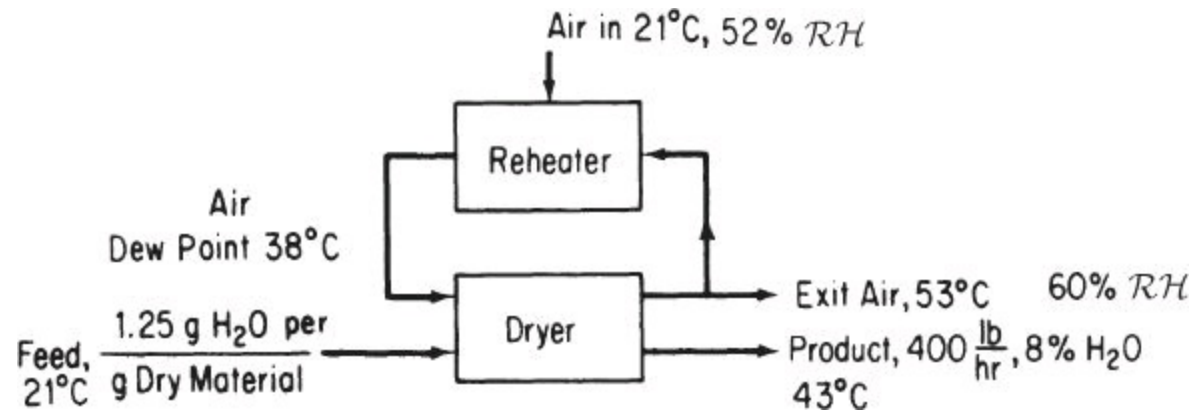

Figure P11.3.5
*****11.3.5.** A dryer produces 180 kg/hr of a product containing 8% water from a feed stream that contains 1.25 g of water per gram of dry material. The air enters the dryer at 100°C dry-bulb and a wet-bulb temperature of 38°C; the exit air leaves at 53°C dry-bulb and 60% relative humidity. Part of the exit air is mixed with the fresh air supplied at 21°C, 52% relative humidity, as shown in Figure P11.3.5. Calculate the air and heat supplied to the heater, neglecting any heat lost by radiation, used in heating the conveyor trays, and so forth. The specific heat of the product is 0.18.